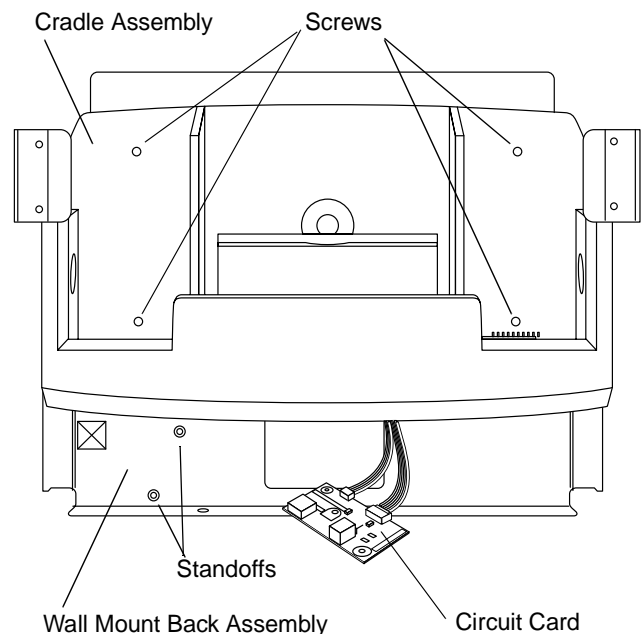

Figure 1. Mounting the Cradle to the Back Assembly
2. Position the cradle assembly over the back assembly so that the four screw holes in the cradle align with the holes in the back assembly. Ensure that the circuit card and cable extend from the bottom of the cradle (reference Fig. 1).